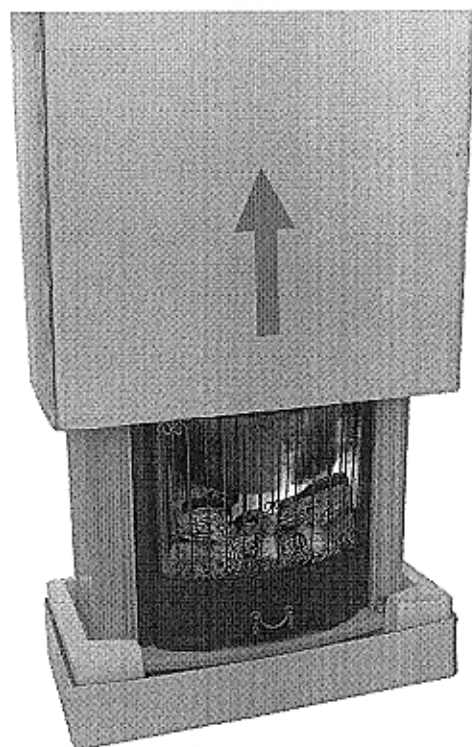

Figure 1
1. Remove packing tape and adhesive tape. Lift up the upper carton and remove it. Carefully lift the heater from the lower carton base (see Figure 1).